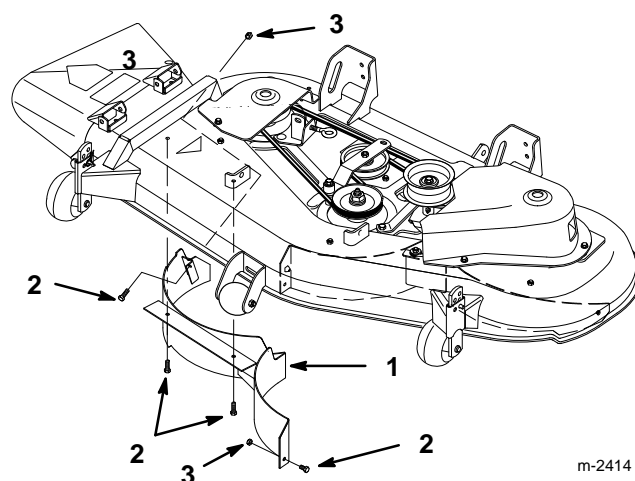

Figure 6
2. Remove lock nuts from top and center of right side baffle (Fig. 6). Lower baffle and slide out of discharge opening to remove.
3. Install previously removed 5/16-5/8" (16 mm) bolts and 5/16" lock nuts in open holes of mower for safety (Fig. 6).